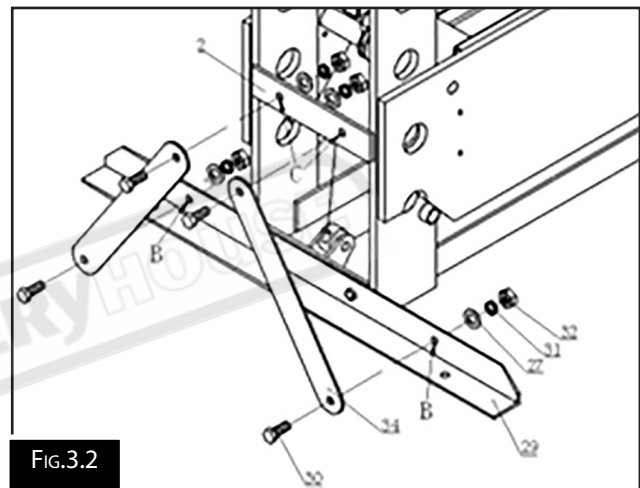

FIG.3.2
2. Attach the feet and the bottom cross member to the side supports, using the M12X30 bolts, nuts and washers.(Fig.3.2)